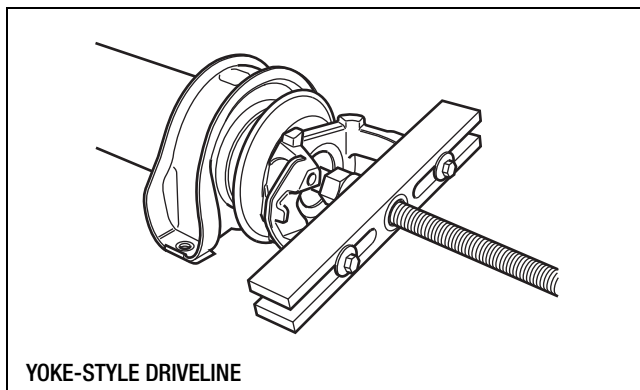
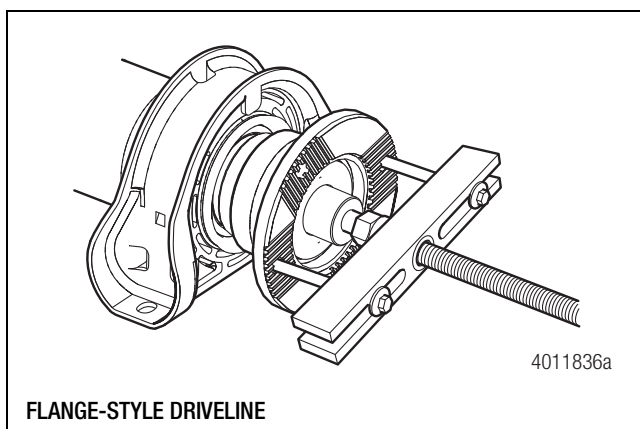

Figure 9.10
Figure 9.11
- Place the driveline on a workbench. Use a puller to remove the center bearing end yoke or flange. Do not use a hammer. Follow the puller tool manufacturer's instructions. Figure 9.10 and Figure 9.11.